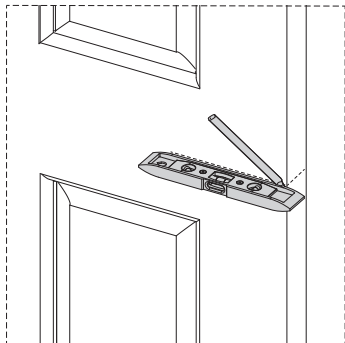

Figure 2.
- 1.3. Using a spirit level, mark the door at the desired lever height, continuing the line from the front of the door, around the edge and onto the back of the door. (Figure 2)